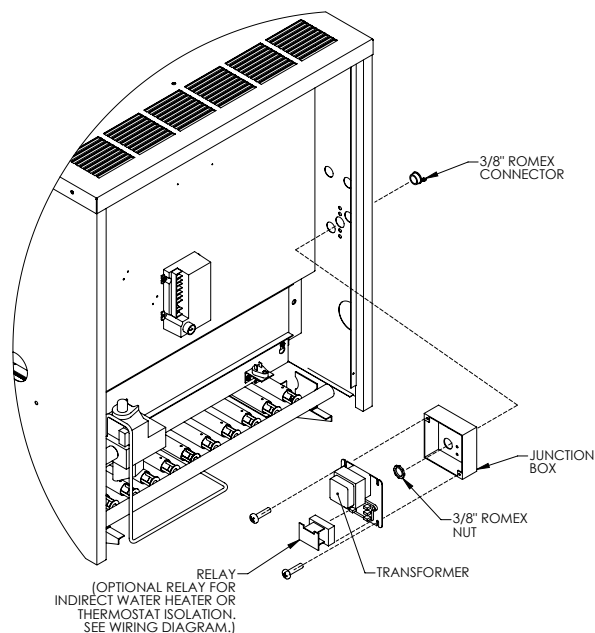

Figure 7.1: Steam Boilers
1. Steam Boilers – Mount the control transformer on the junction box as shown in Figure 7.1.